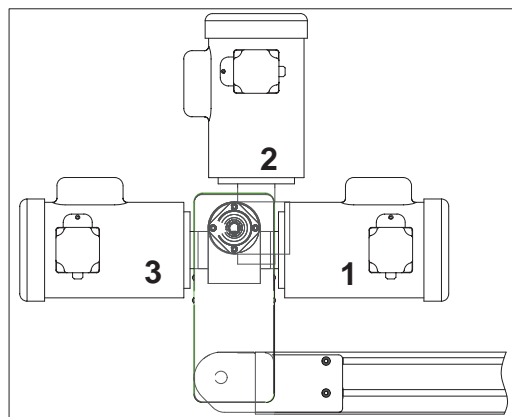

Figure 5
*Gearmotor may be operated in positions 1, 2 or 3 (**Figure 5**).*